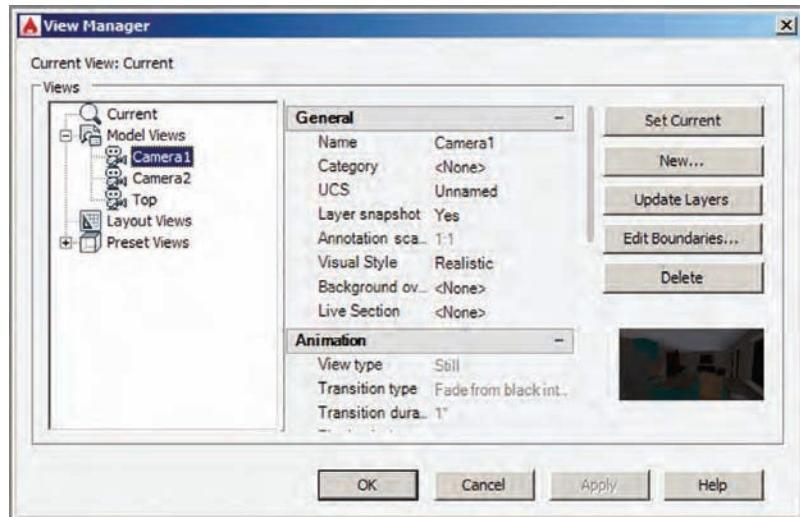

FIGURE 18.9 Selecting a predefined camera view
- 13.** Type **V** (for View) and press Enter. Double-click Camera1 in the View Manager (see Figure 18.9). Click Apply and OK.